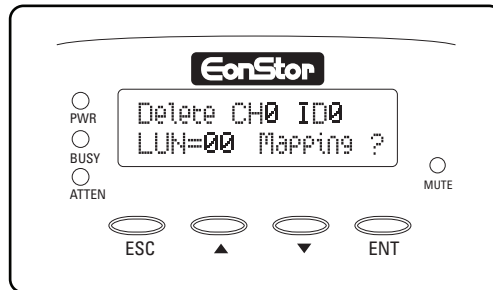

Figure 38. Delete LUN
21. Press ENT three times until Delete CH0 ID0 LUN=00 Mapping appears (refer to Figure 38).